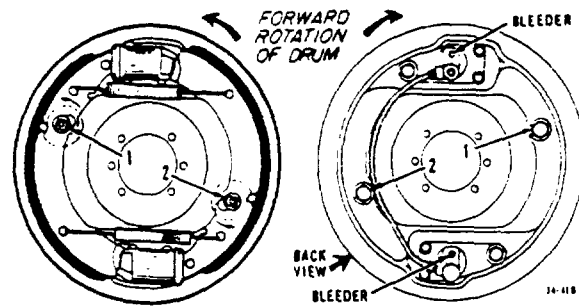

Figure 13-30. Outboard and Inboard Views of Left Front "F" Brake
1. Depress brake pedal several times to center the shoes in drums. See Figure 13-30.
2. As shown in Figure 13-30, place a wrench on cam and shoe guide stud (1) or (2) to adjust one shoe. Rotate wrench in direction of FORWARD wheel rotation to decrease lining-to-drum clearance. Reduce clearance until lining drags on drum.
4. Place wrench on opposite cam and shoe guide stud (1) or (2) to adjust second shoe. Repeat steps 2 and 3.